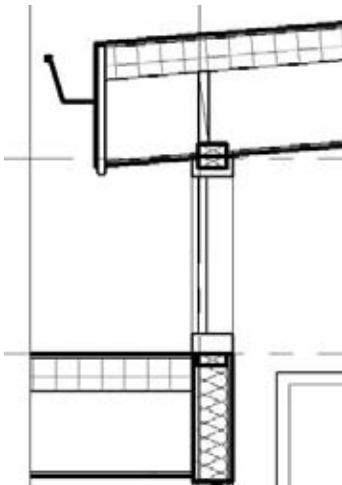

Figure 11.41
3. Draw in the insulation below the windowsill. The finished detail will look like Figure 11.41.